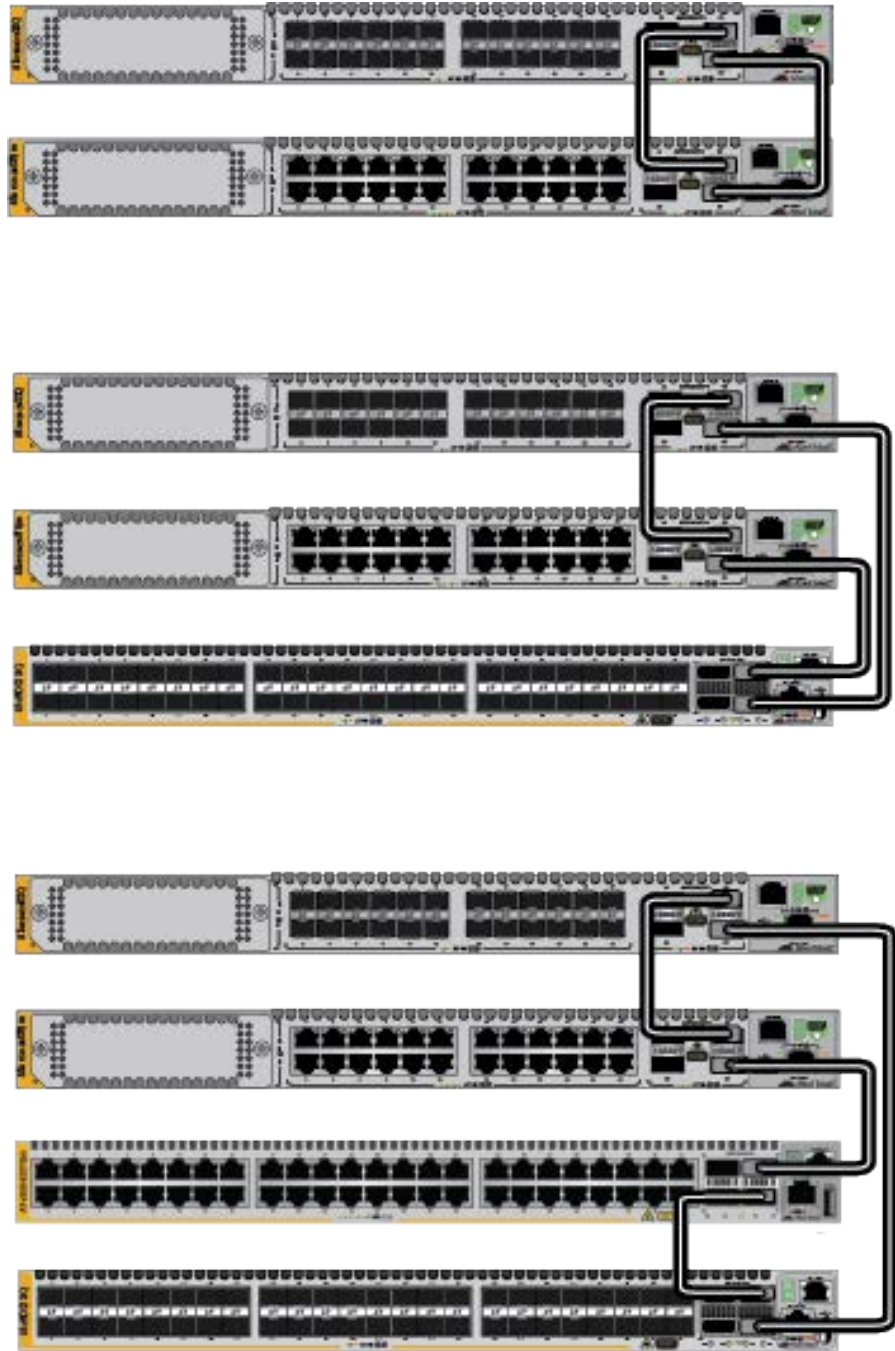
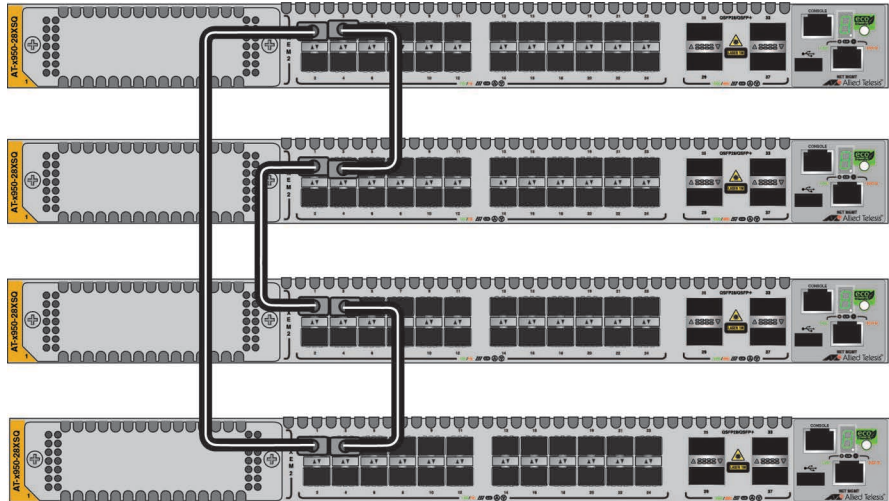
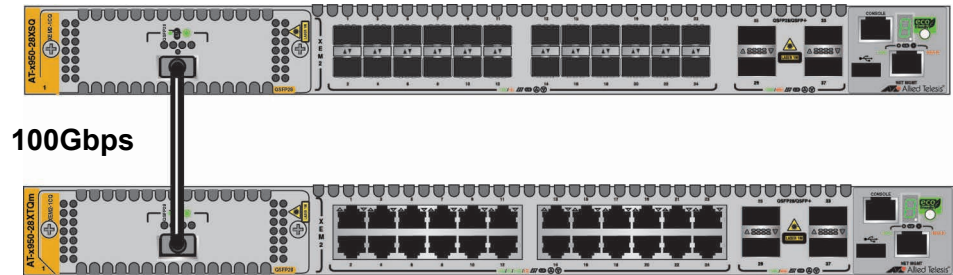

Figure 37. Stack Trunk Examples with 100Gbps Links
Figure 45. Unsupported Trunk with Only One Link Between Switches
Figure 47. Not Recommended Stack Trunk of XEM2-12XS Line Cards
- ❑ Figure 37 illustrates stacks of two, three, and four switches, with ports 33, 37, 57 and 61 and 100Gbps links as the trunks.
- ❑ In most cases, trunks should have a minimum of two links between switches. The trunk in Figure 45 is not recommended because there is only one link between switches. The exceptions to this are stacks of three or more switches with trunks of base 100Gbps ports. Refer to Figure 37 on page 88.
- ❑ Allied Telesis does not recommend using the XEM2-1CQ Line Card for a stack trunk because it has only one transceiver port and the switch has only one expansion port. Refer to Figure 47 on page 94. Instead, use two base 40/100Gbps transceiver ports, as shown in Figure 37 on page 88, to build a 100Gbps trunk.